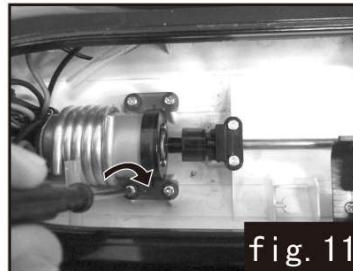

fig. 11
- 11.Lock the motor seat screw(see fig.11)